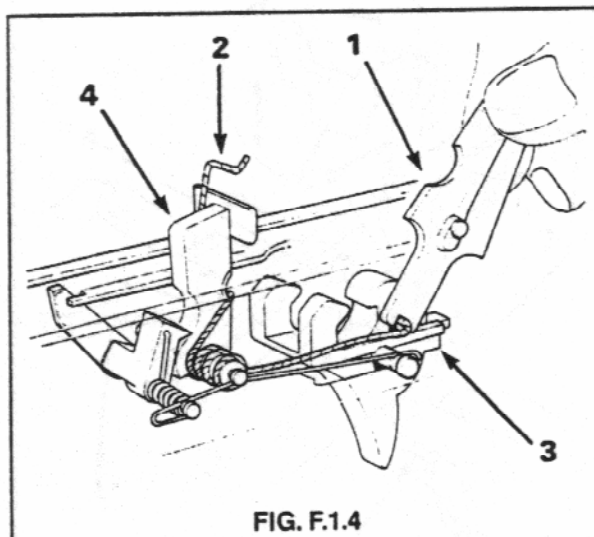

FIG. F.1.4
3. With the aid of the stripping pin and key tool, move the two ends of the hammer spring from their normal position on the trigger and reposition the ends around the top of the hammer. With the hammer spring ends repositioned in this manner removal of the sear and trigger is simplified. Fig. F.1.4 shows one of the hammer spring ends around the hammer top and the other spring end being moved from its normal position. See Fig. F.1.4 and F.1.5.